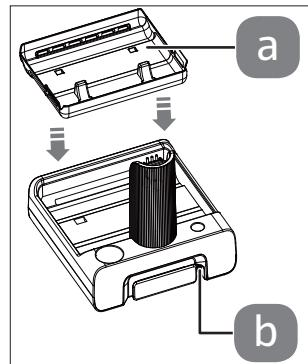

Fig. 4 – Charging station
- ▶ Insert the coaxial power connector of the mains adapter supplied into the connection socket (b) on the back of the charging station (**(see Fig. 4)**).